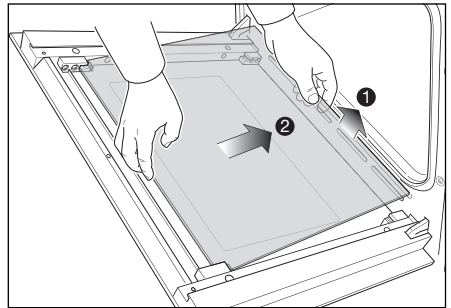

Fig.41c
- Gently lift the bottom edge of the pane (arrow 1 in Fig. 41c) and remove it by pulling it out from the top clamps (arrow 2 in Fig. 41c).